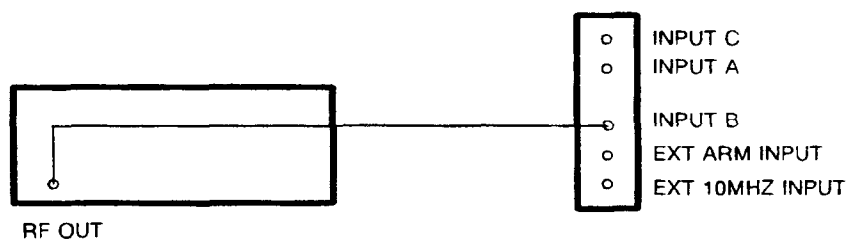

Figure 5-14. Input B X10 Attenuator Check Configuration
2. Connect the counter to the signal generator as shown in Figure 5-14.